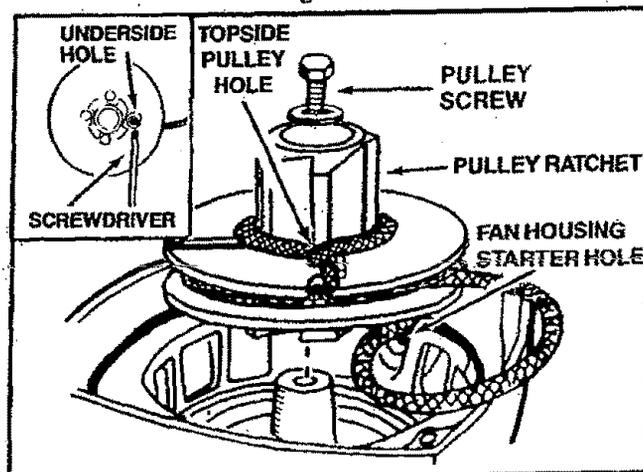

Figure 48
6. Remove screw and pulley very carefully. Figure 48. The recoil spring which lies beneath the pulley must stay in the housing, flat against the bottom. If the spring is disturbed, it will require considerable time and effort to reinstall. Twist the pulley gently counterclockwise as you pull up to release the spring.
11. Guide rope inside pulley, then up through the pulley ratchet side of pulley hole to the outside by pushing the rope through from the hole on the spring cam side with a small Phillips screwdriver. Figure 48.
12. Wrap rope counterclockwise around pulley ratchet and tuck loose end back under rope leaving a 3/8 to 3/4 inch tail along the ridge as shown in Figure 48. Pull tightly.
15. Replace and tighten pulley screw. Figure 48.